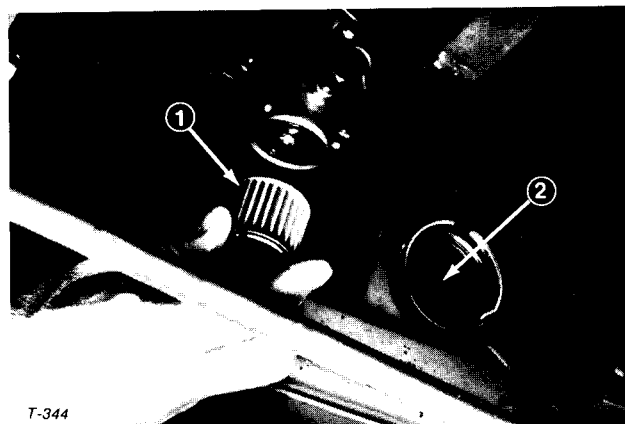

Figure 12
4. Pull the filter out of the pump body (Fig. 12).
7. Clean the magnet of any residue (Fig. 12), insert the filter into the body and install the cover.